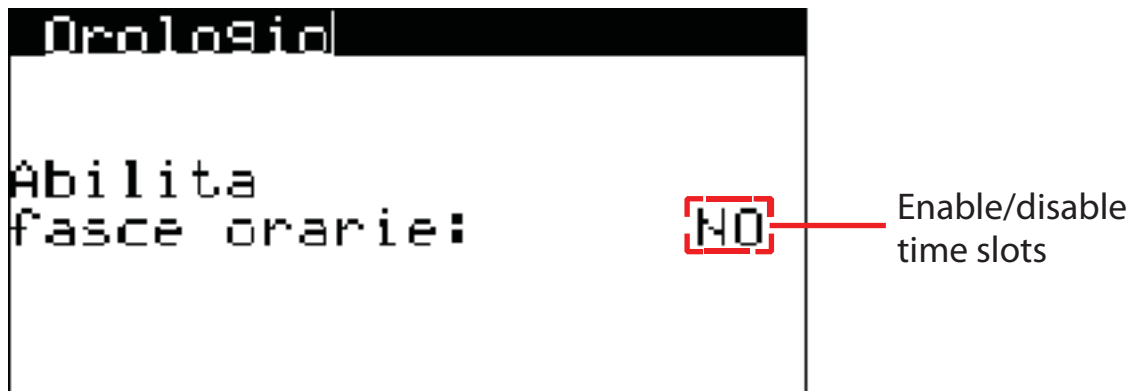

Fig. 9
2. screen of activation of the time slots (Fig. 9)